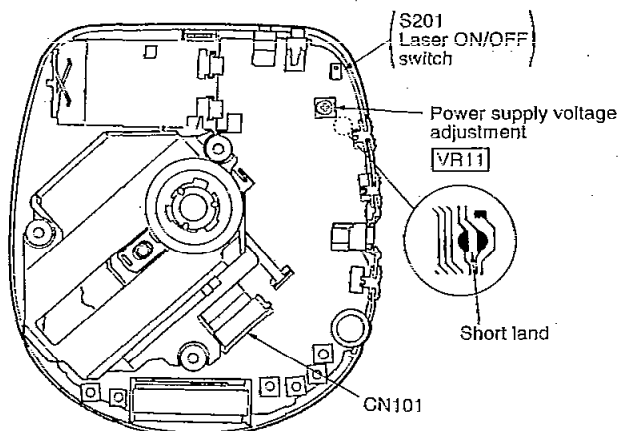

Fig. 1
Short-circuit the lands of the laser ON/OFF switch (S201) by soldering them. It turns "ON" position. (Refer to below Fig. 1 or printed circuit board and wiring connection diagram for short land location on page 24.)
2. Take care to connect CN101 (as shown in Fig.1).
4. Adjust **VR11** on the P.C.B. at **3.10 – 3.14 V**, as shown in Fig.1.